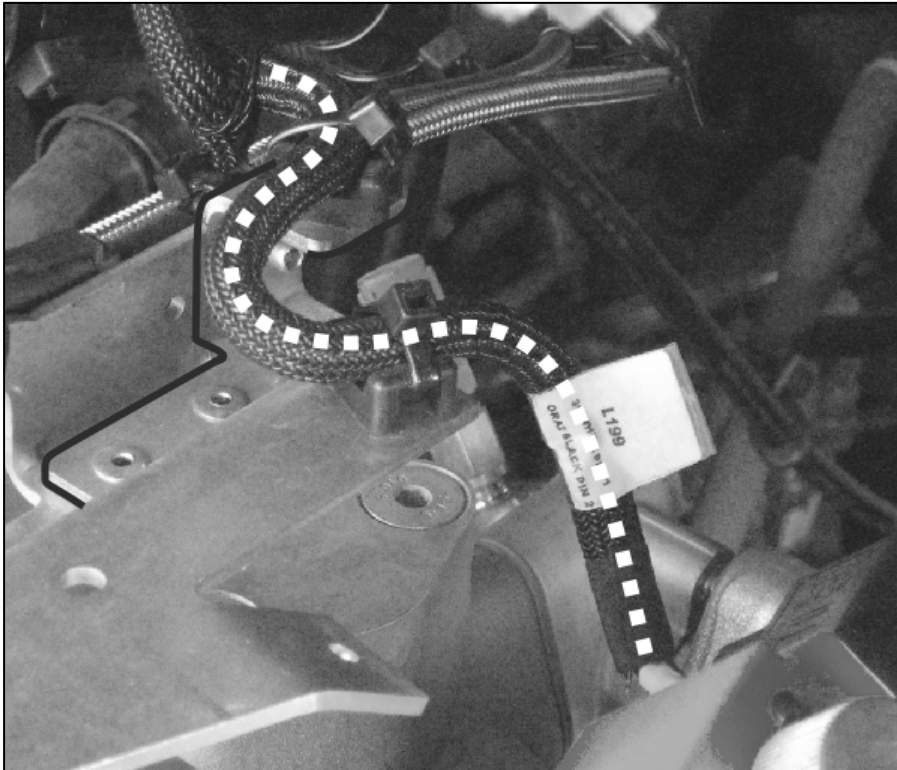

Figure 17
Four (4) new holes will need to be drilled. Use dimensions provided below. (Fig. 17)
Secure fitting assemblies with thread cutting screws 502848 (Fig 17)